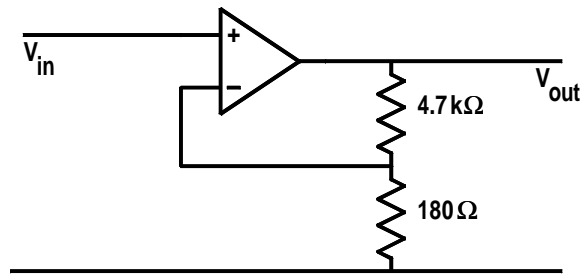

Figure 41.5: Problem 41.2.
- 41.2 The op-amp used in the amplifier shown in Figure 41.5 has an open loop gain, $A_0 = 10^5$. Use the basic feedback equation: